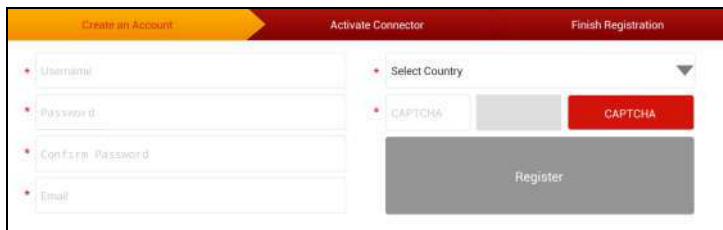

Fig. 4-3
1. If you are a new user, tap “New Registration” to enter registration page. See Fig. 4-3.
In Fig. 4-3, fill in the information in each field (Items with * must be filled). After inputting, tap “Register”, a screen similar to the following will appear: